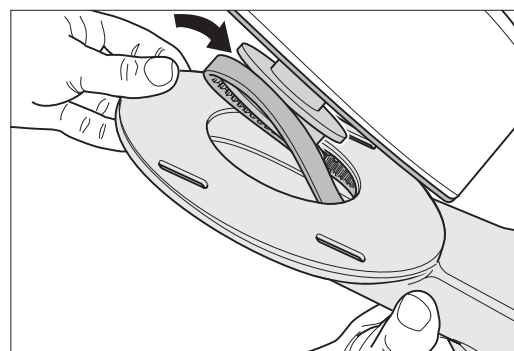

Fig. 71: Pull the V-belt slightly of the attachment and place it in the motor belt pulley.
- 13 On the motor side, pull the V-belt slightly out of the attachment and then place it in the motor belt pulley (Fig. 71).